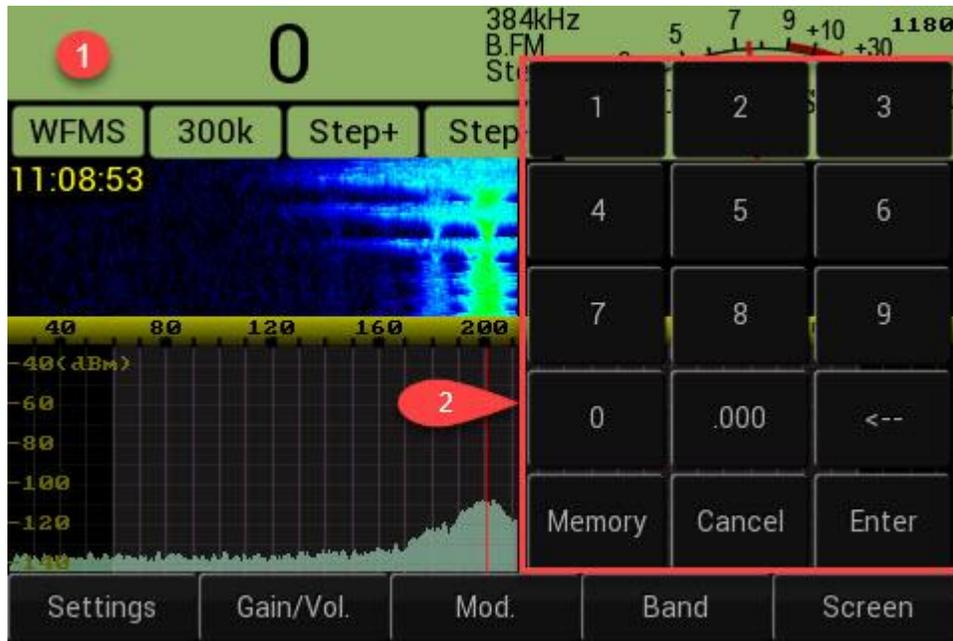

Figure 7-3 Direct Frequency input
- Direct frequency input from numeric keyboard. Direct frequency input is possible in special submenu that contains numeric keyboard (Figure 7-3). This submenu is available, when user touch Frequency indicator area (Figure 1-1, element 13). In this case it is possible directly input desired frequency from keyboard and make it active pressing “Enter” key, or save the number into desired memory cell if user will press “Memory” key. Please see